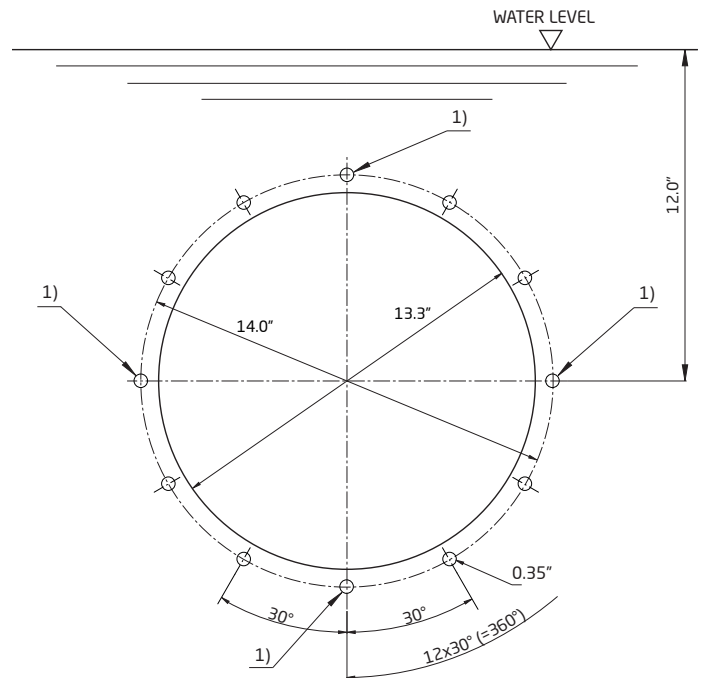
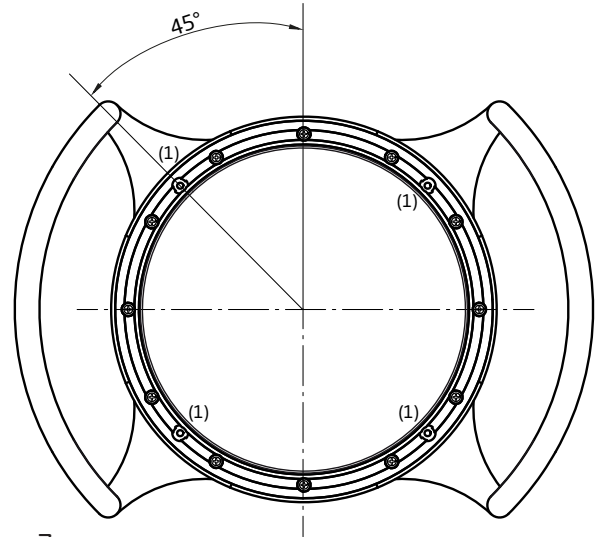
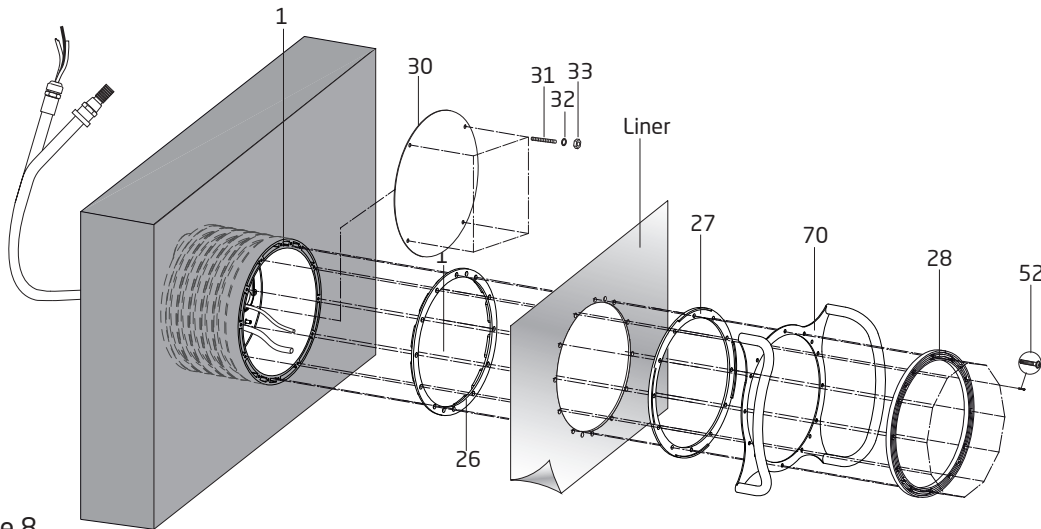

Figure 5
Figure 7
Figure 8
- Create formwork for the jet housing using Figures 5 & 6.
- Drill the four M8 holes marked (1) in Figure 5 in the formwork for the inner pool wall. Cut a 14.5" hole in the formwork for the outer pool wall. **CAUTION:** The center of the jet housing **MUST BE** mounted 12" **BELOW** the water line as shown in Figures 5 & 6
- Install the four (4) M8 x 80mm gunite cover studs (part# 31) in the front of the jet housing. They should be in the same position as the holes marked (1) in Figure 5. Slide the gunite cover (part# 30) over the studs. Tape the edge of the gunite around the entire jet housing to keep concrete out of threaded inserts and out of the jet housing.
Align the stainless steel handles (part #70) and clamping ring (part #28) as shown in Figure 7. Use the twelve (12) M8 x 30 clamping ring screws (part #52) to attach the clamping ring and handles to the jet housing.
Use the provided mounting template (*small scale version of template shown in Figure 5*) to mark and drill the holes through the liner (twelve (12) M8 clamping ring screw holes and 13.3" center hole). Insert the gasket with knobs in the front of the jet housing (part #26). Install the liner with the holes aligned to the jet housing. Align the clamping ring (part #28) and stainless steel handles (part #70) as shown in Figure 7. Place the clamping ring gasket (part #27) behind the stainless steel handles and install using the twelve (12) M8 x 30 clamping ring screws (part #52). (See Figure 8)
Align the stainless steel handles (part #70) and the clamping ring (part #28) as shown in Figure 7. Using the twelve (12) M8 x 30 clamping ring screws (part #52), attach the clamping ring and handles to the jet housing.
Use the template in Figure 5 to mark and drill the holes through the liner (twelve (12) M8 holes and center 14" hole). Insert the gasket with knobs (part #26) in the front of the jet housing. Install the liner with the holes aligned with the jet housing. Align the clamping ring (part #28) and stainless steel handles (part #70) as shown in Figure 7. Place the clamping ring gasket (part #27) behind the stainless steel handles and install using the twelve (12) M8 x 30 clamping ring screws. (*See Figure 8*)
7. Align the clamping ring (part #28) over the stainless steel handles (part #70) as shown in Figure 7.
8. Install the twelve (12) M8 x 30 clamping ring screws (part #52).